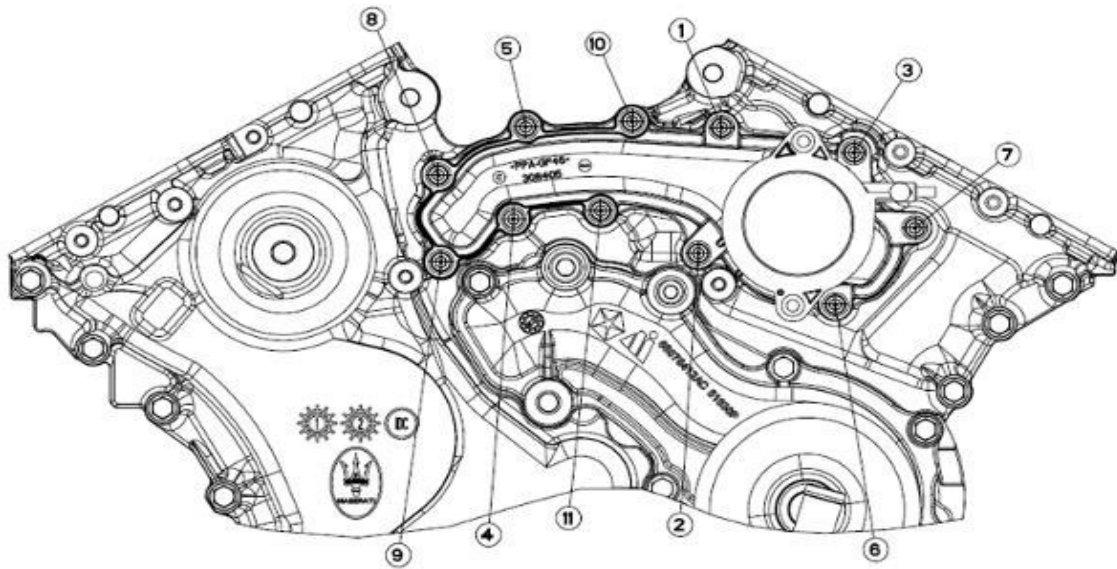

Fig.8
12. Install the new crossover pipe following the torque sequence in Fig.8.